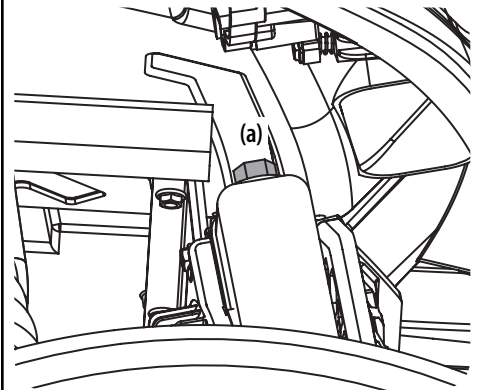

Figure 5-23
2. Remove the bleeder screw (a) on the radiator, fill the radiator and when fluid begins to come out of the bleeder screw hole, replace the bleeder screw (a). The bleeder screw (a) can be accessed via the front right wheel well. See Figure 5-23.